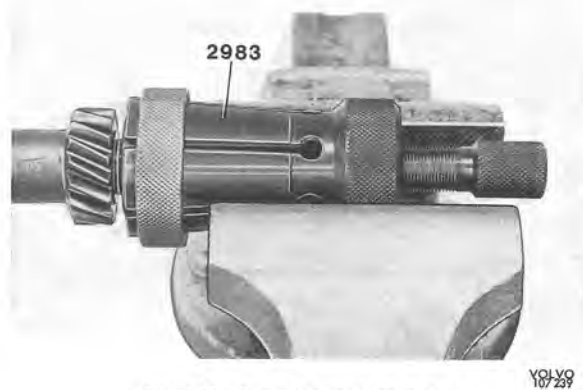

Fig. 4-23. Removing rear inner ring
10. Hoist the intermediate shaft. Drive out the outer ring for the intermediate shaft front bearing with drift 2413. Pull off the inner rings for the intermediate shaft bearing with puller 2983 (rear bearing, see Fig. 4-23) and 2988 (front bearing).